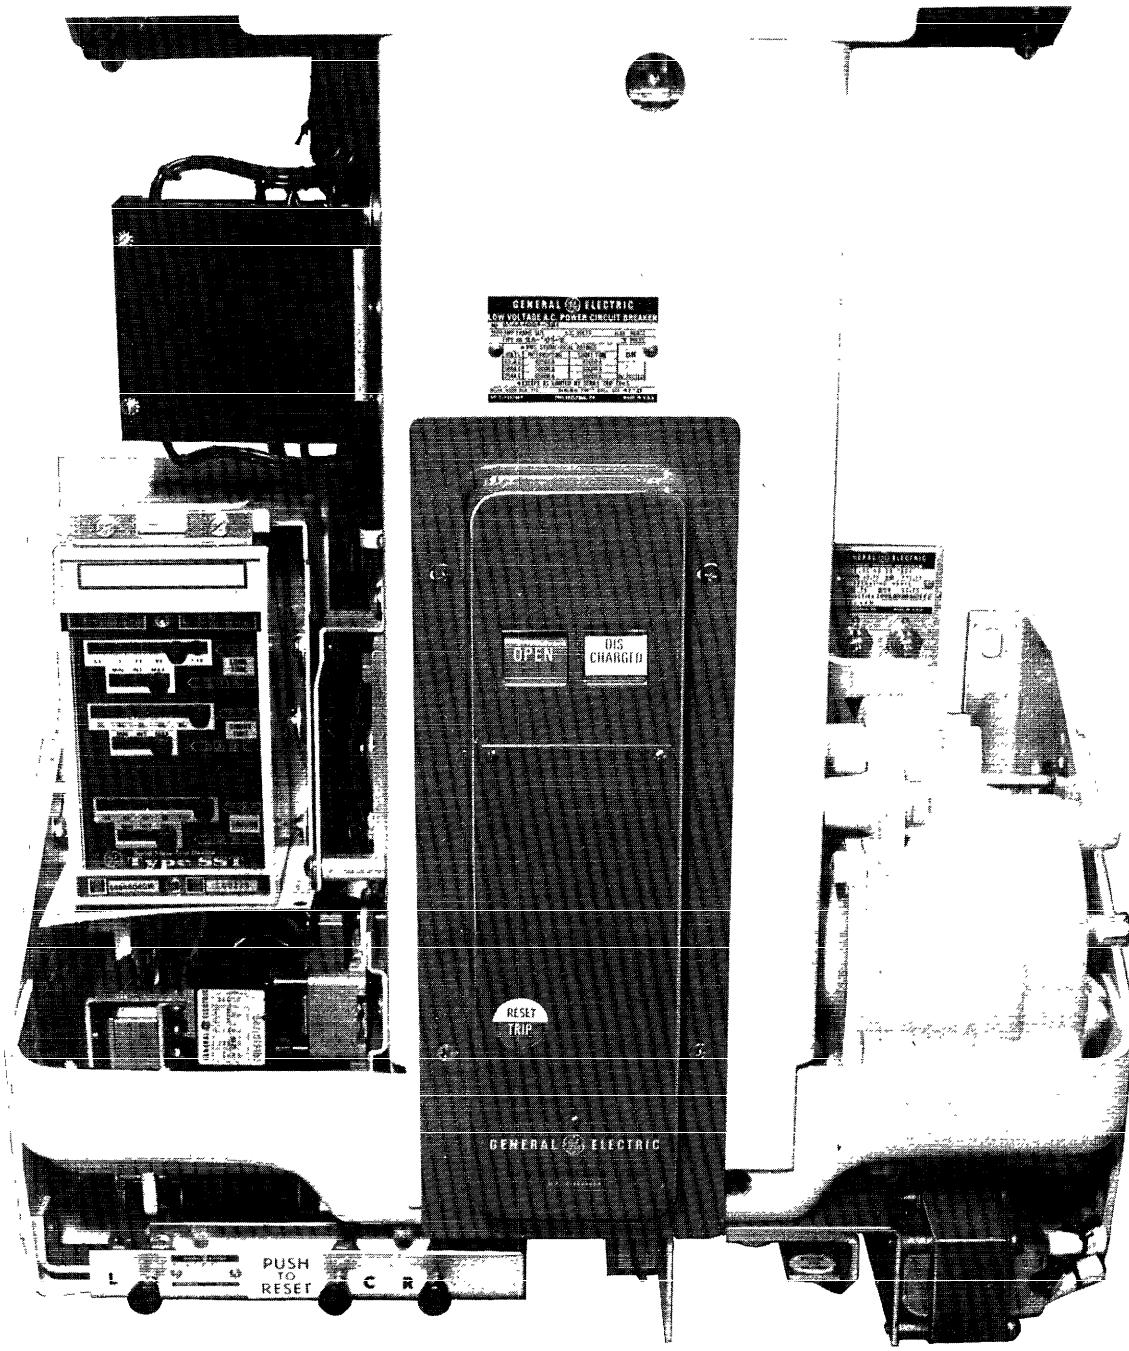

Fig. 1 —SST programmer unit mounted on AKU-50 breaker.
1. Referring to Figs. 1, 4 & 5, install the programmer mounting brackets 70 and 75 on the breaker's center channel.